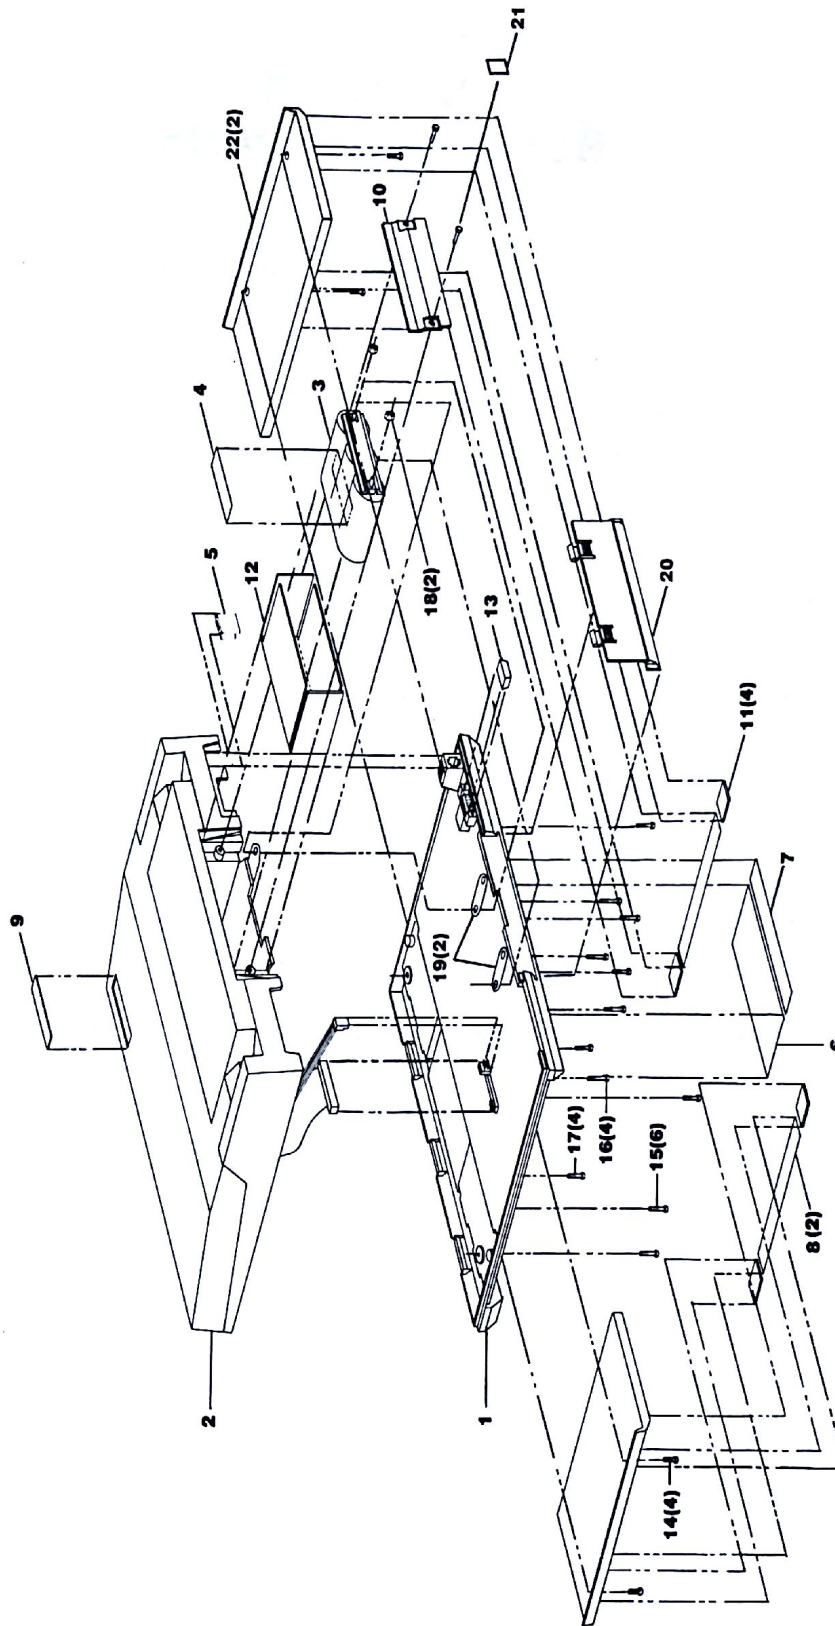

Figure 9-1. Portable PLUS Exploded View
- Portable PLUS final assembly (figure 9-1, table 9-1).